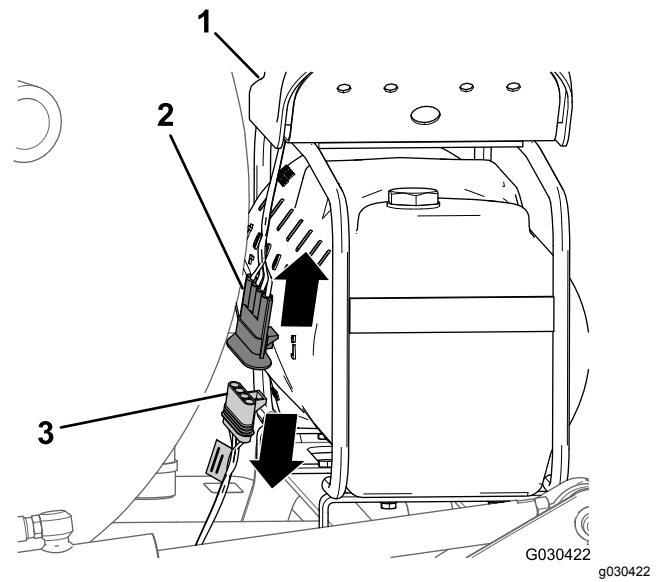

Figure 11
1. At the back of the foam-marker tank, locate the wire harness at the compressor (Figure 11).
2. Disconnect the 4-pin connector of the compressor harness from the 4-socket connector of the rear wire harness of the machine (Figure 11).